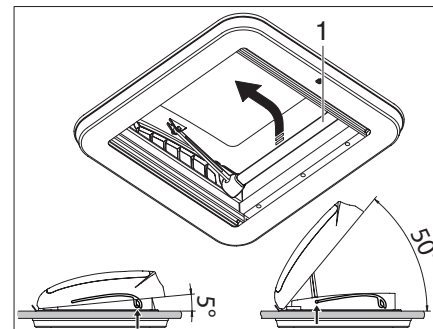

Fig. 49 Open the dome
- Push the push rod (Fig. 49,1) up to unlock to release the locking mechanism.